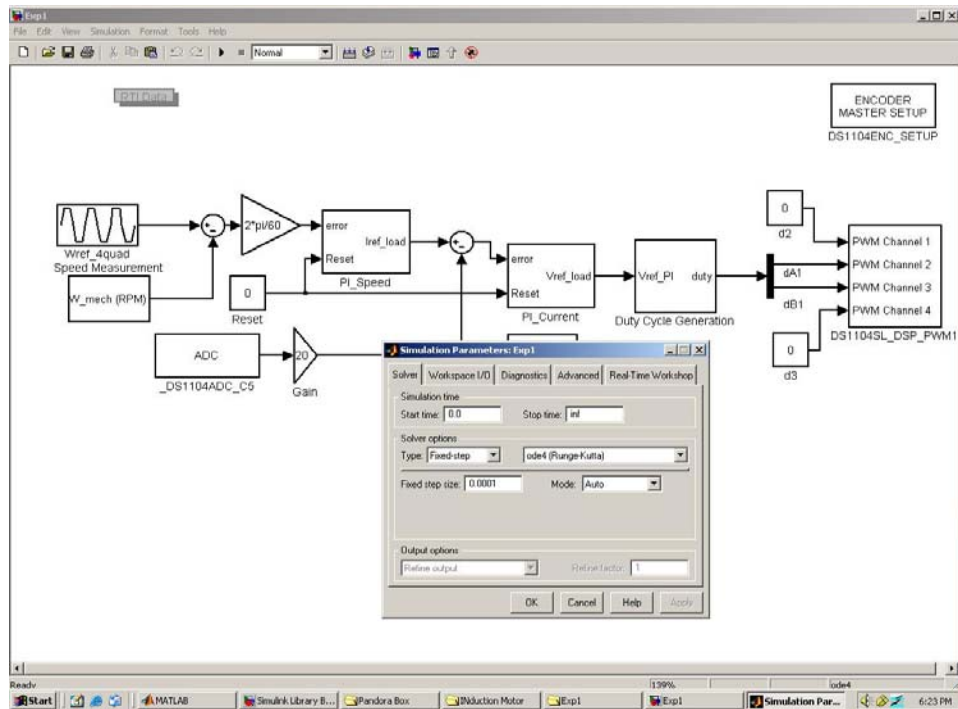

Figure 1.5: Simulink file Exp1.mdl, setting the simulation parameter
- The Simulink file **Exp1.mdl** will look as shown in Fig 1.5. Open the simulation parameters from the tools menu and set the parameters as shown in Fig 1.5. The fixed step size is the same as the discrete-step, which will be used by the DSP DS1104. This means that in every “discrete-step” the whole program (i.e. **control-system** in this case) will be executed, I/O data will be exchanged and the decision making will be done inside DS1104.